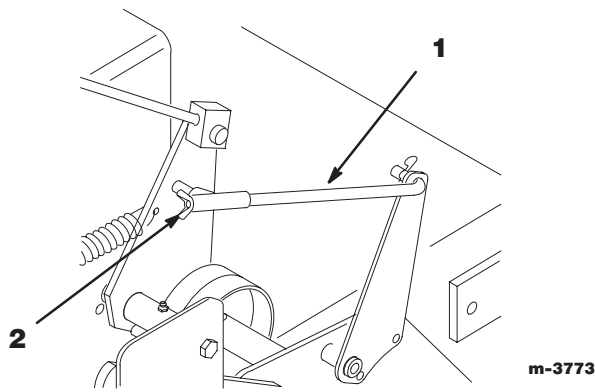

Figure 42
3. To adjust brake set the parking brake latch, and rotate the wing nuts on the brake rods (Fig. 42). Clockwise to tighten the brake and counterclockwise to loosen the brake.